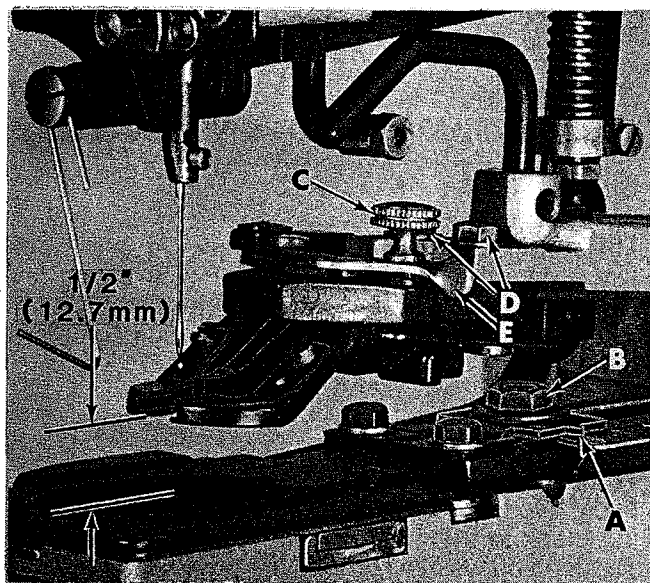
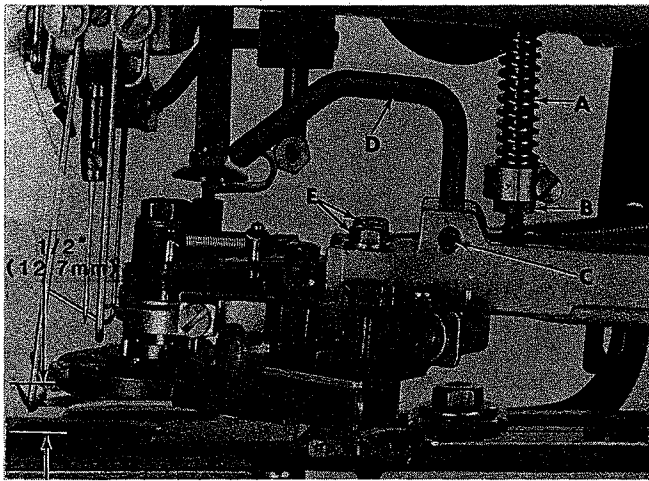

Fig. 32
Fig. 34
Measure the distance between the two holes of the button (from center to center). Then set the indicator (A, Fig. 32) to corresponding dimension on the graduated scale by loosening nut (B). Move selector lever (A, Fig. 33) at rear of the machine to the two hole position (B).
NOTE: The stitch can be tightened on buttons having large holes by decreasing the lateral clamp travel—set indicator (A, Fig. 32) to a smaller dimension on the graduated scale.
Now, place a button into the clamp jaws (200-45) or button holder (200-38) so that the button holes correspond to the needle travel across the arm. Engage the machine into RUN POSITION and rotate the pulley in operating direction until the needle has penetrated all the holes in the button. The needle should enter the center of each hole. The button clamp may be shifted slightly to obtain this condition by loosening screws (D, Fig. 32) on 200-45 or (E, Fig. 34) on 200-38. It may also be necessary to deviate slightly from the graduated scale dimensions previously used.
Machine is in STOP POSITION. The button clamp or holder should be adjusted so that the bottom is approximately 1/2 inch (12.7 mm) from the feed plate, (See Figures 32 and 34).
Loosen set screw (C, Fig. 34) and raise or lower rod (D) as required. Now engage machine into RUN POSITION. The clamp in down position must contact the feed plate and there should be clearance between the lifting rod (D) and the roller.
The stop pin is located inside the clamp tension spring (A, Fig. 34).
Loosen locknut (B, Fig. 34) and turn the lower section to lengthen or shorten the pin. Tighten locknut (B).